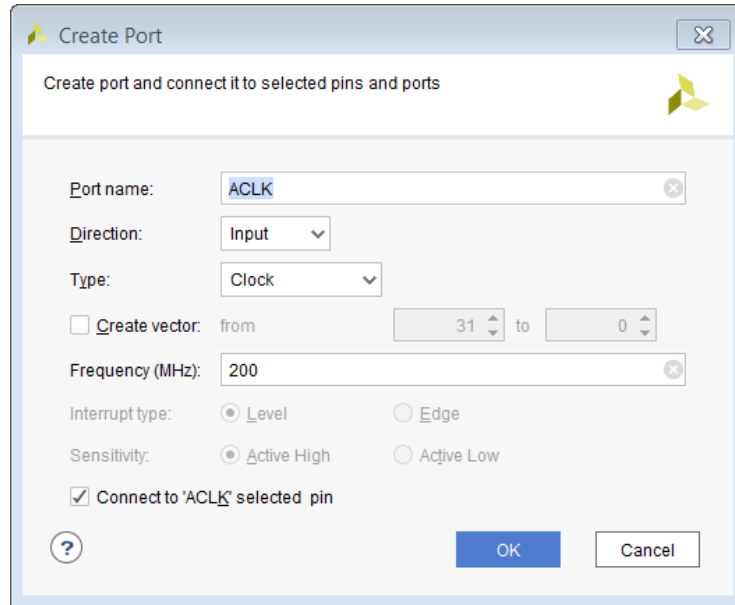

Figure 11: Create Port - ACLK
4. In the Create Port dialog box, shown in Figure 11, specify the **Frequency** as **200 MHz**, leaving everything else at its default value.